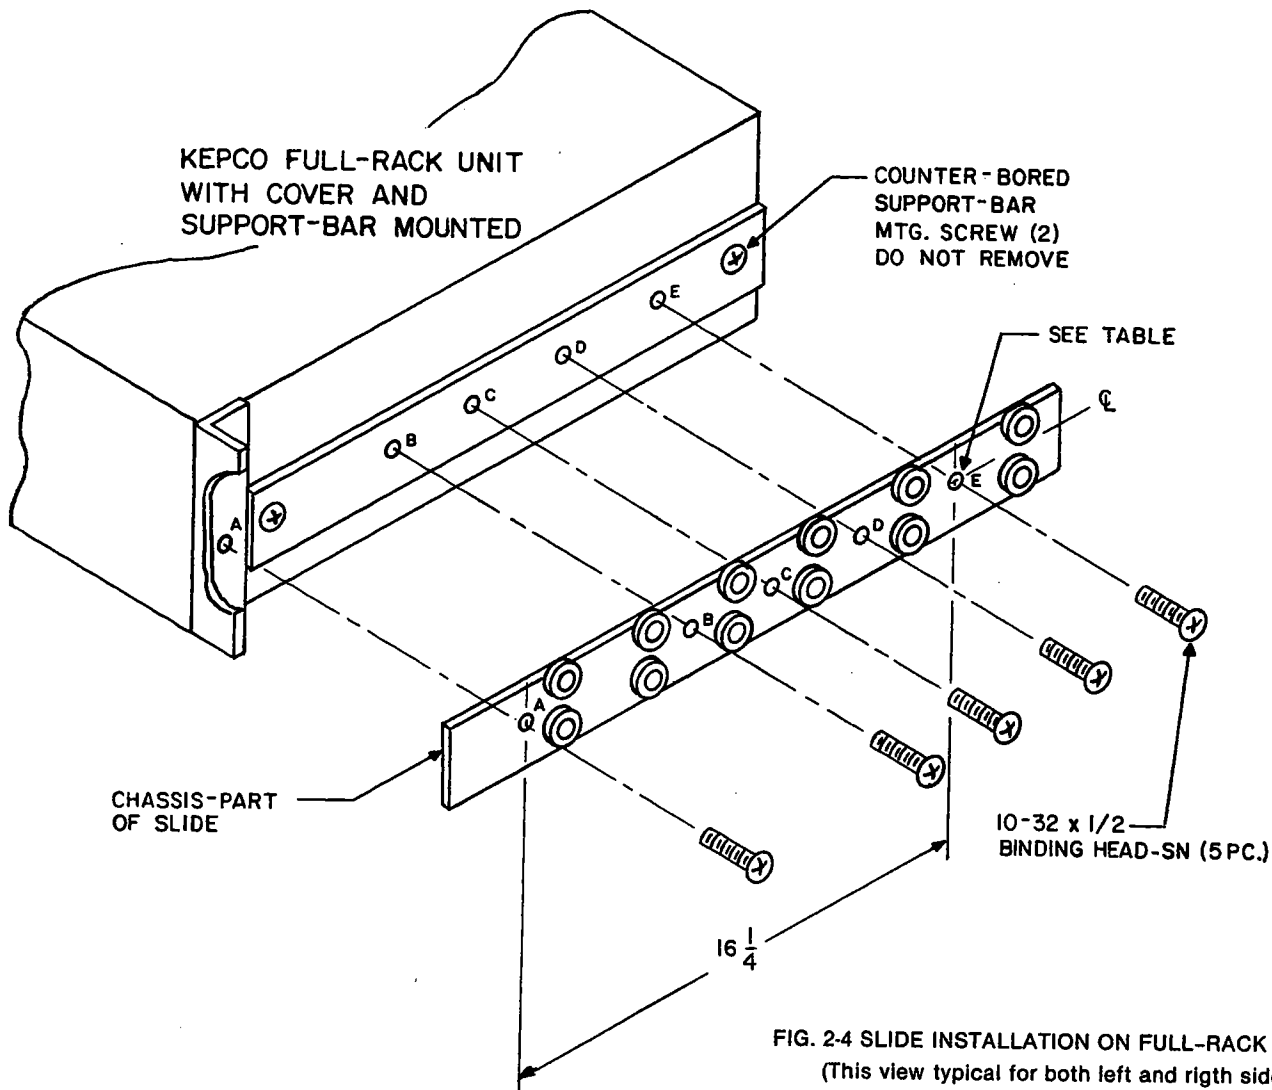

FIG. 2-4 SLIDE INSTALLATION ON FULL-RACK UNITS (This view typical for both left and right side)
## 2-12 INSTALLATION OF FULL-RACK BOP MODELS (Refer to Section I, Fig. 1-4 and to FIG. 2-4).
2-15 PROCEDURE (Refer to FIG. 2-4):
- 4) Mount the chassis section of the slide to the left and right side of the BOP, as shown in FIG. 2-4. Use the same 10-32 x 1/2" Mounting Screws which you removed in step (1).